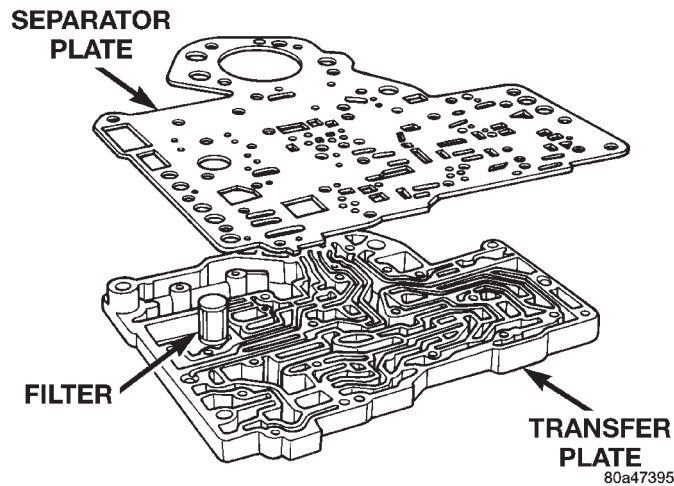

Fig. 61 Transfer And Separator Plates
(23) Insert filter into opening in separator plate (Fig. 61).
(24) Place separator plate in position on transfer plate and install screws to attach separator plate to transfer plate (Fig. 61).